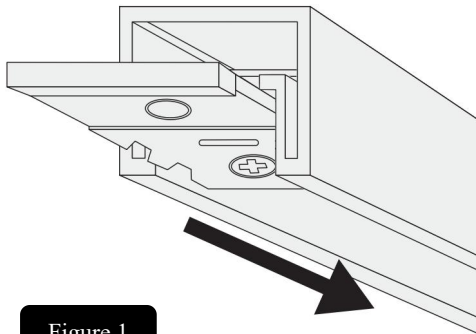

Figure 1
Step 1: Insert top pivot bracket into track as shown (Figure 1).